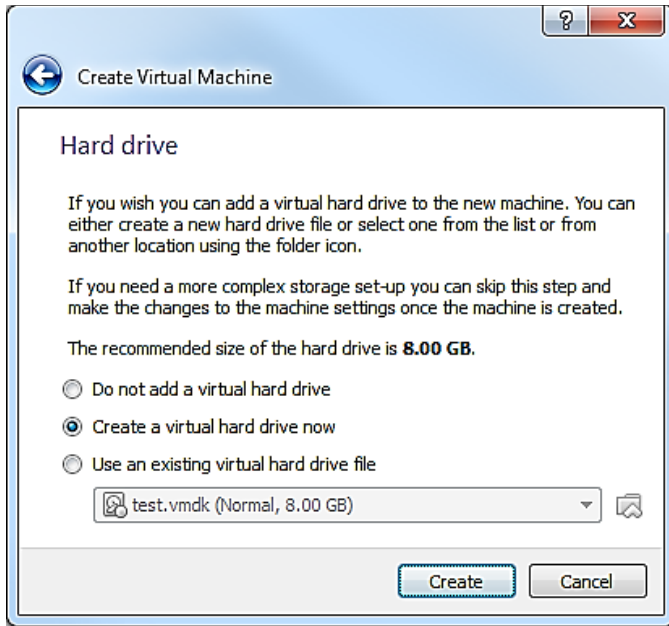

Figure 6: Selecting Storage Size
4. Create hard drive for VM. Choose Create as shown in Figure 6.